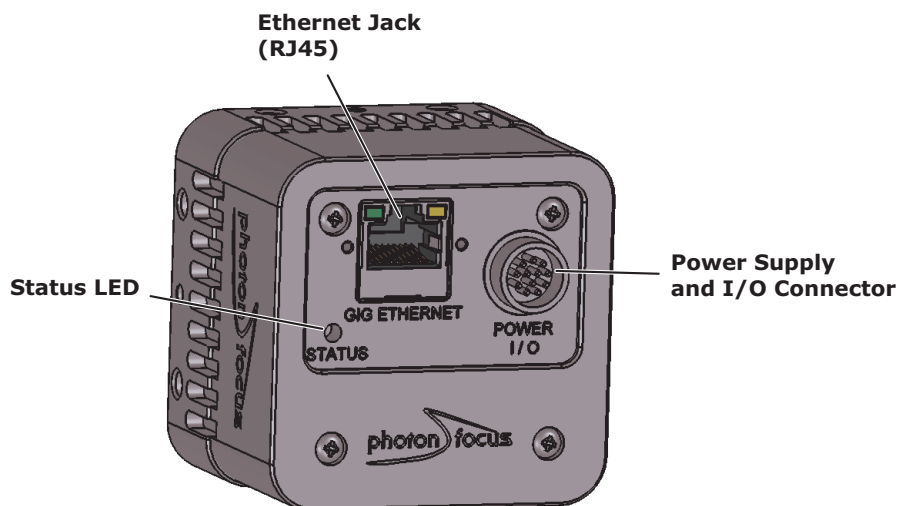

Figure 2.1: Rear view of the GigE camera MV1-D1312(IE/C)-40-G2 with power supply and I/O connector, Ethernet jack (RJ45) and status LED
4. Connect the power supply to the camera (see Fig. 2.1).